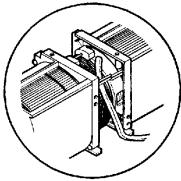

Figure 15
4. Reassemble the blower wire. See Figure 15.